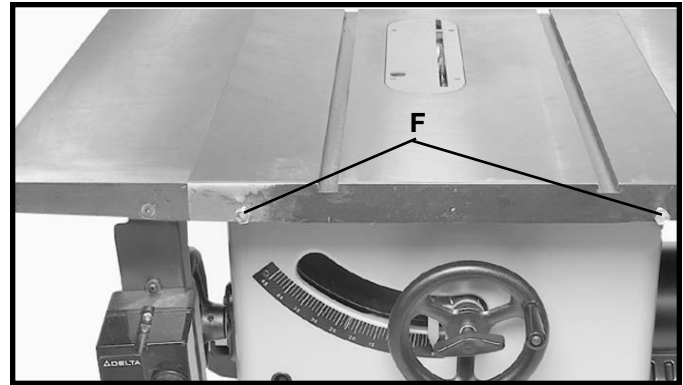

Fig. 53
3. Insert two 3/8-24x1" hex head bolts into the two holes (F) Fig. 53, in the front of saw table and place flat washer and nut onto bolt from underneath the saw table. Screw bolts into nuts two full turns, leaving bolt head extended approximately 1/2" from the table. **Note: Make sure to use only the two holes shown at (F).**